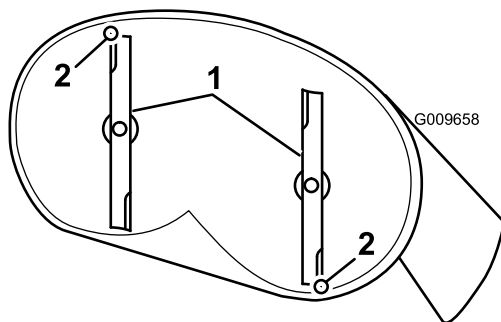
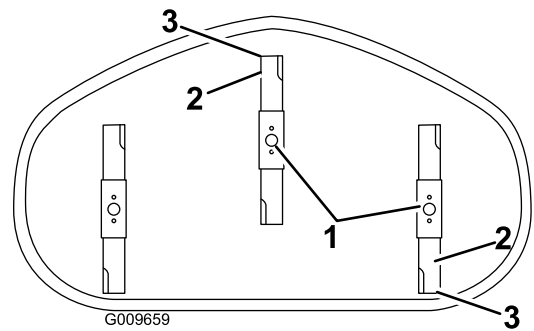

Figure 63
Figure 64
4. Carefully rotate the blades so they are facing front to rear (Figure 63 and Figure 64).
5. Measure from the tip of the front blade to the flat surface, and the tip of the rear blade to the flat surface (Figure 63 and Figure 64).
9. After adjustment, check the front-to-rear slope again, continue adjusting the nut until the front blade tip is 1.6 to 7.9 mm (1/16 to 5/16 inch) lower than the rear blade tip (Figure 63 and Figure 64).